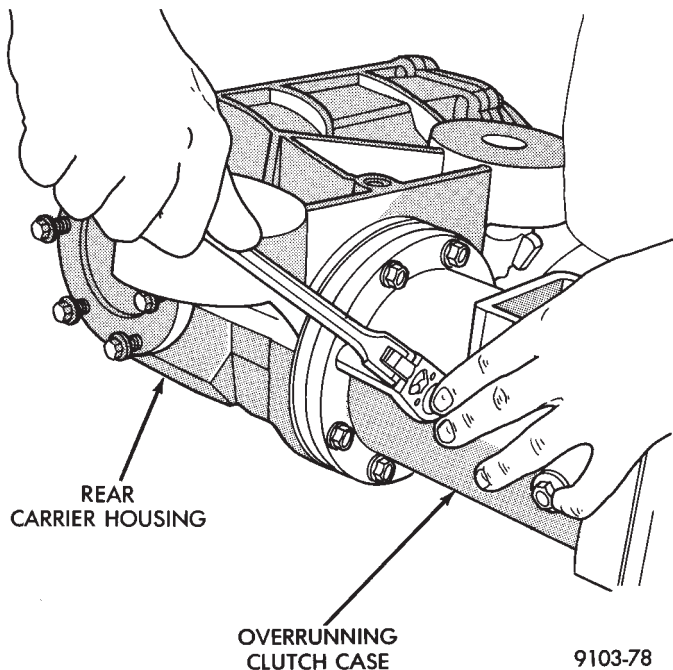

Fig. 8 Overrunning Clutch Case to Rear Carrier Bolts
- (1) Remove rear drive line module assembly from vehicle.
- (2) Remove viscous coupling unit.
- (3) Remove overrunning clutch cover assembly.
- (4) Drain fluid from overrunning clutch case.
- (5) Remove overrunning clutch case to rear carrier bolts (Fig. 8).